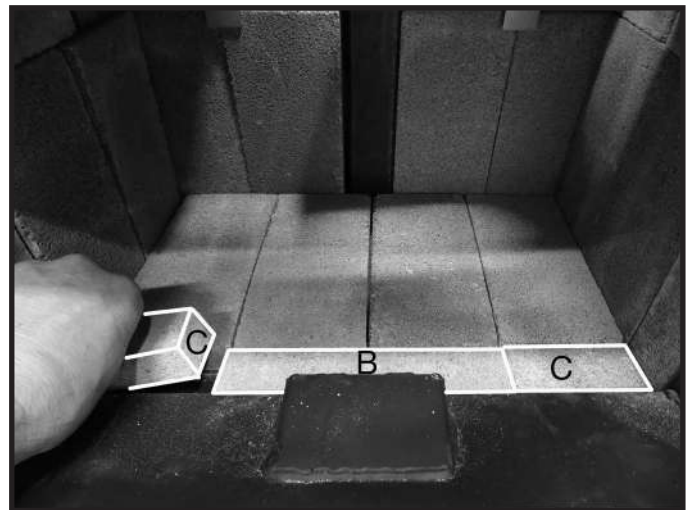

Figure 19: Narrow front bricks in place.
4. Place the remaining "B" firebrick so that it sits in front and at the center, add a "C" brick on each side. (Figure 19).